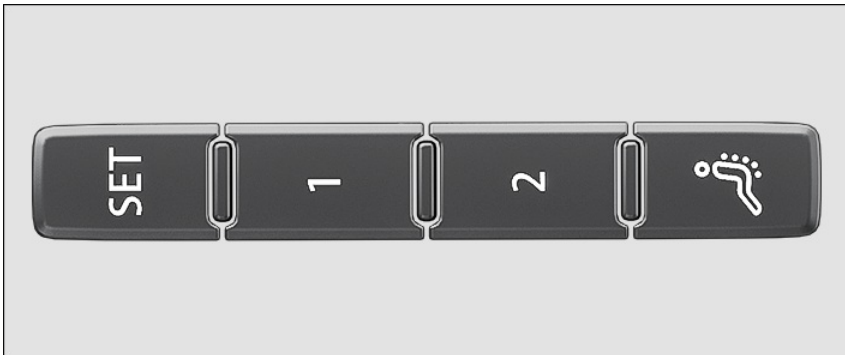

Fig. 98 On the outer side of the driver's seat: memory buttons.
5. Press the **SET** *fig. 98* button for longer than ten seconds.
4. Press the desired memory button *fig. 98*.